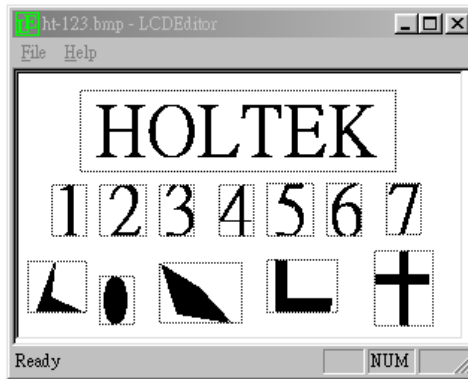

Fig 11-7
- The panel will be displayed in the window as in Fig 11-7